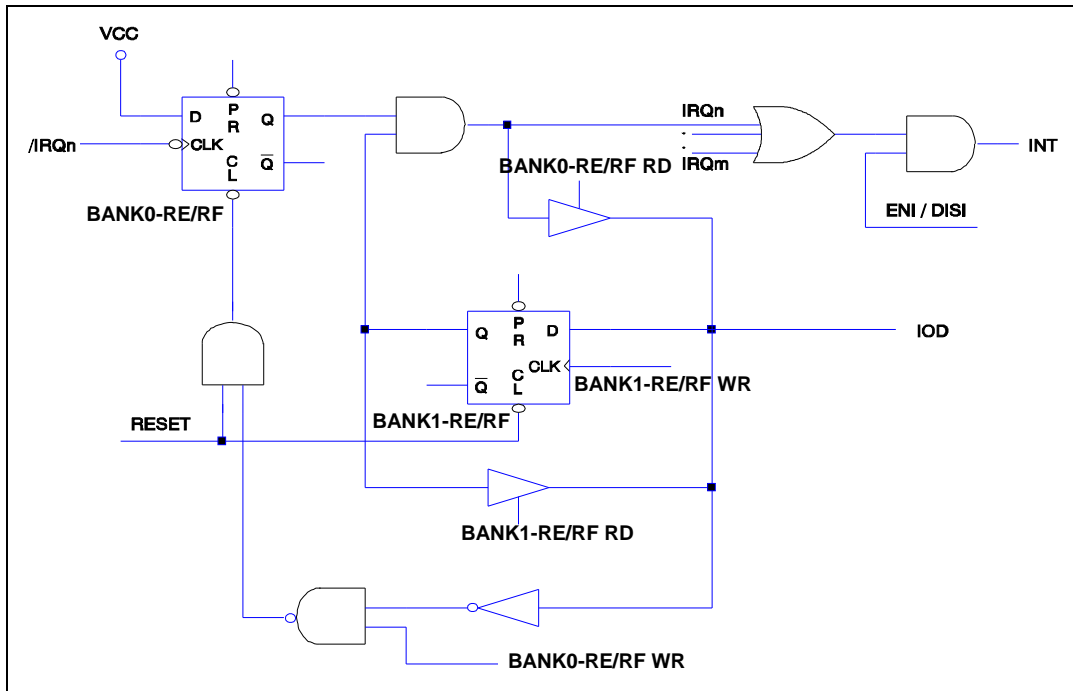

Figure 6-9 Interrupt Input Circuit
When interrupt mask bits are "Enabled", the flag in the Interrupt Status Register (RF) is set regardless of the ENI execution. Note that the result of Bank 0-RE/RF will be the logic AND of Bank 0-RE/RF and Bank 1-RE/RF (refer to Figure 6-9). The RETI instruction ends the interrupt routine and enables the global interrupt (the ENI execution).